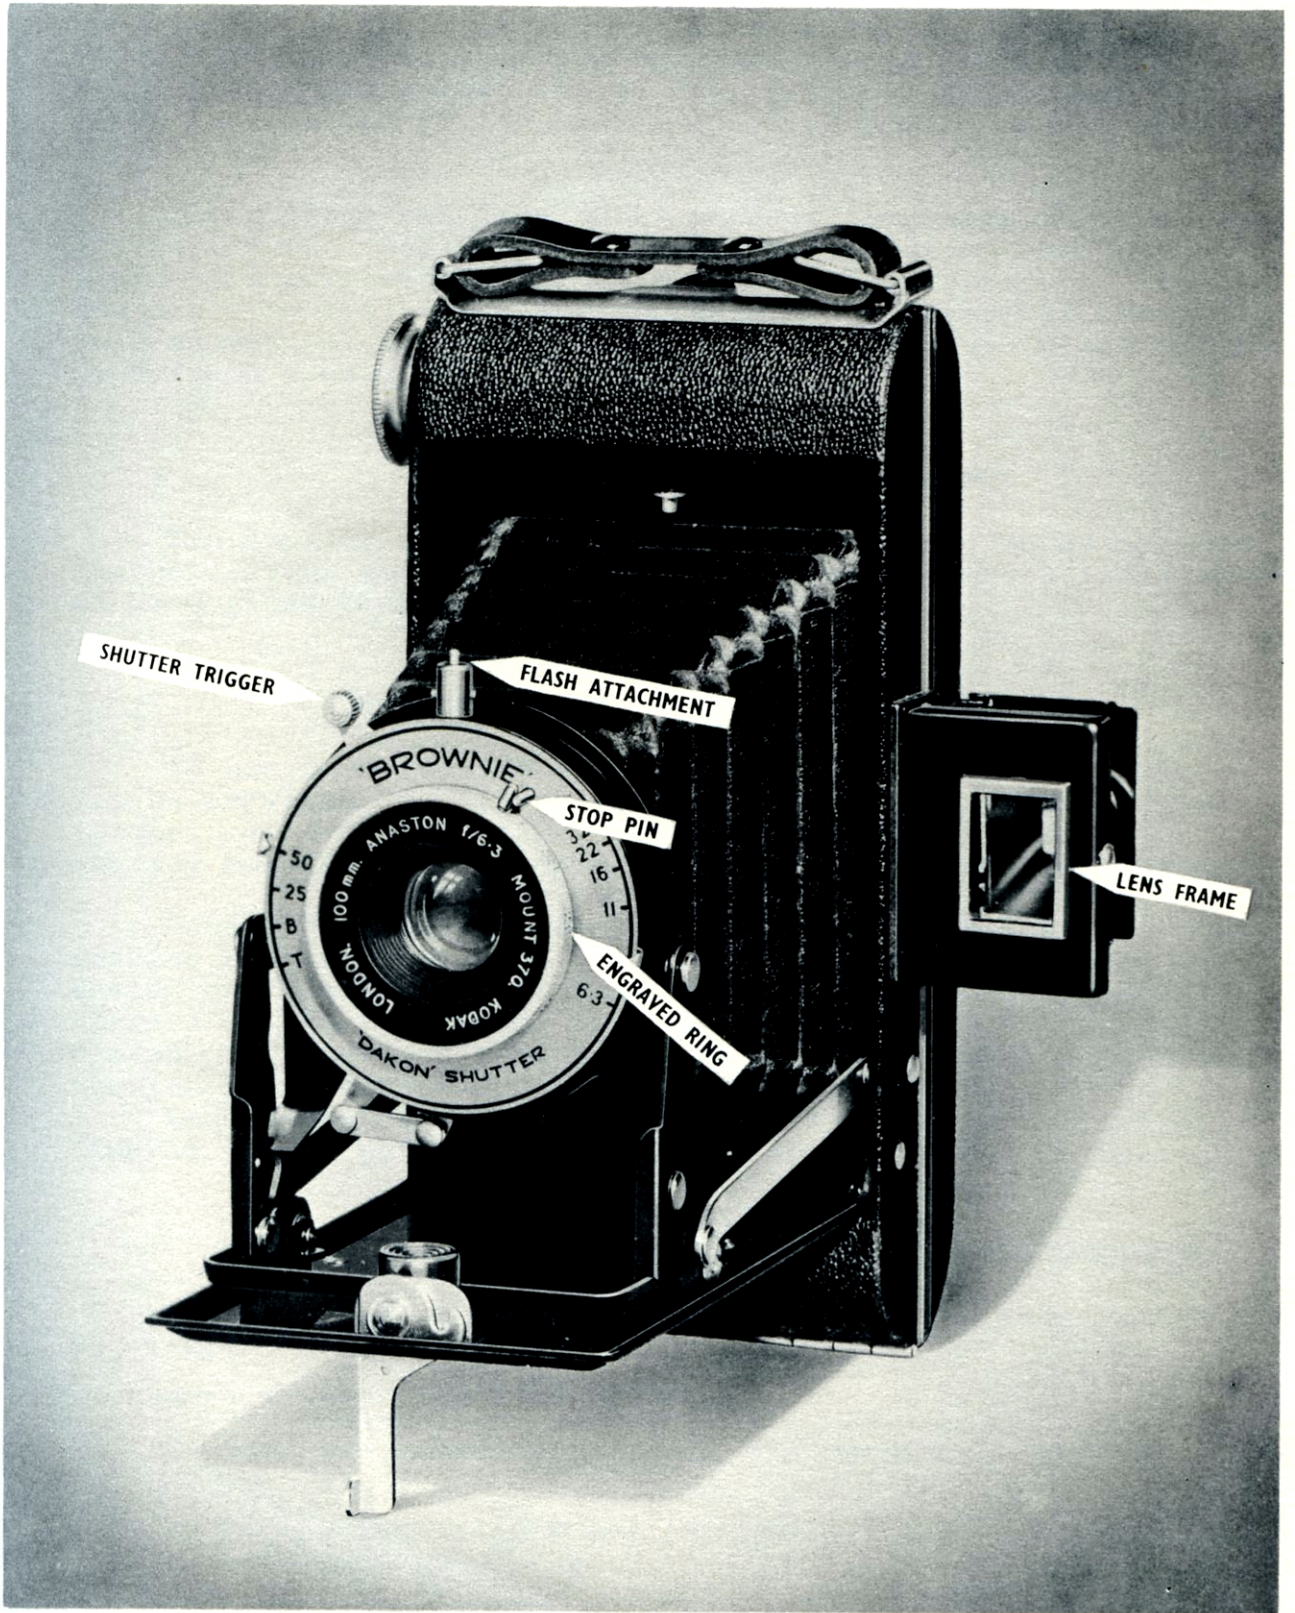

FIGURE 1
3. With the watchmaker's screwdriver, unscrew the stop-pin from the rim of the front lens mount. Retain this carefully. This action releases the engraved scale, which is threaded over the rim of the lens mount. (See Fig. 1)